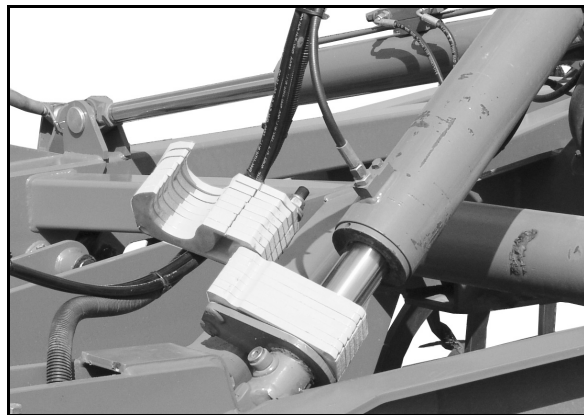

Fig. 48
- On the running gear hydraulic cylinder (Fig. 48),